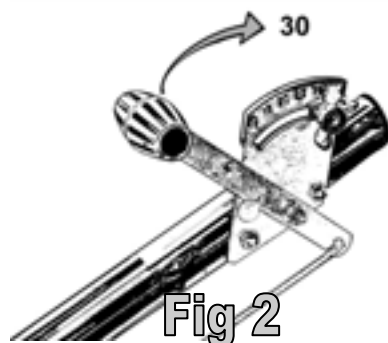

Fig 2
2. Move the Rate Control Stop to #30 and tighten, then move the Rate Control Handle to #30. **Fig 2**